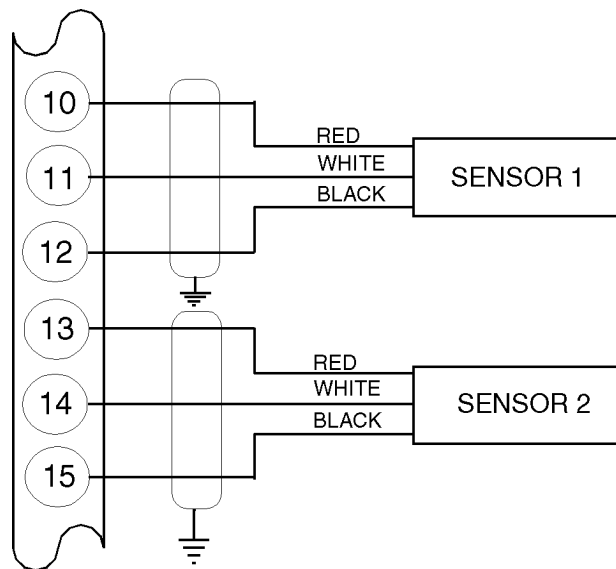

Figure 3-1 Sensors Connections
NOTE: The cable shield should be connected to ground only at one end of the cable (this applies for each sensor connection). See Figure 3.1.
Care must be observed to ensure that the sensor leads are not inadvertently connected to the signal common (C) or to the power ground while energized. (See Figure 3-1)